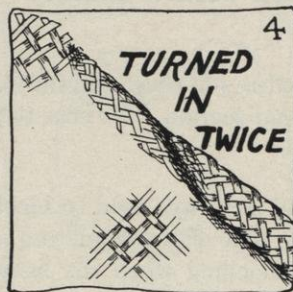

FIG. 4.
- (4) If the edge is to be turned in twice (a welted edge), follow Sections 4, 5, and 6 *c* and *e* (pages 57 and 58). (See Figure 4.)